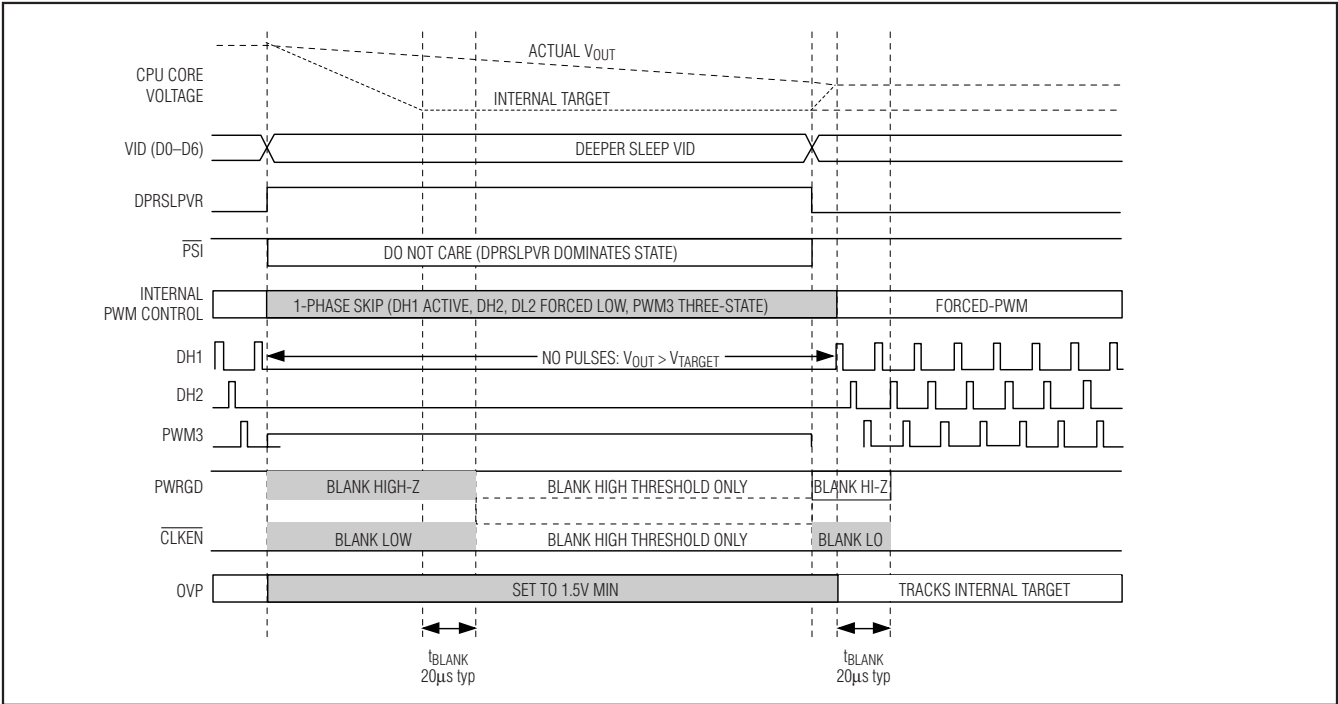

Figure 5. C4E (C4 Early Exit) Transition
When DPRSLPVR goes high, the MAX17030/MAX17036 immediately disable phases 2 and 3 (DH2, DL2 forced low, PWM3 three-state, $\overline{\text{DRSKP}}$ low), and enter pulse-skipping operation (see Figures 5 and 6). If the VIDs are set to a lower voltage setting, the output drops at a rate determined by the load and the output capacitance. The internal target still ramps as before, and PWRGD remains blanked high impedance until 20 μ s after the output voltage reaches the internal target. Once this time expires, PWRGD monitors only the lower threshold:
- **Fast C4E Deeper Sleep Exit:** When exiting deeper sleep (DPRSLPVR pulled low) while the output voltage still exceeds the deeper sleep voltage, the MAX17030/MAX17036 quickly slew (50mV/ μ s min regardless of R_{TIME} setting) the internal target voltage to the DAC code provided by the processor as long as the output voltage is above the new target. The controller remains in skip mode until the output voltage equals the internal target. Once the internal target reaches the output voltage, phase 2 is enabled. The controller blanks PWRGD and $\overline{\text{CLKEN}}$ (forced high impedance) until 20 μ s after the transition is completed. See Figure 5.